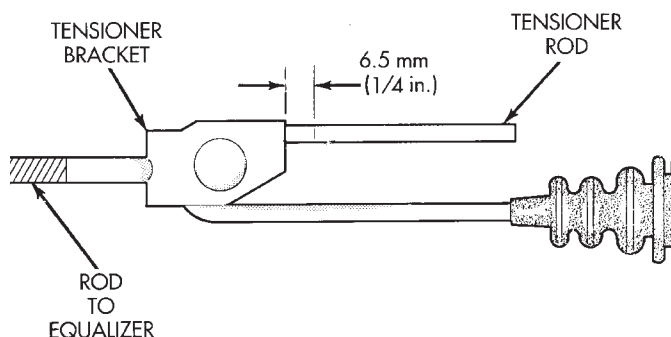

Fig. 83 Tensioner Rod Measurement
- (1) Raise vehicle.
- (2) Back off tensioner adjusting nut to create slack in cables.
- (3) Remove rear wheel/tire assemblies and remove brake drums.
- (4) Check rear brakeshoe adjustment with standard brake gauge. **Excessive shoe-to-drum clearance, or worn brake components will result in faulty parking brake adjustment and operation.**
- (5) Verify that parking brake cables operate freely and are not binding, or seized. Replace faulty cables, before proceeding.
- (6) Reinstall brake drums and wheel/tire assemblies after brakeshoe adjustment is complete.
(7) Lower vehicle enough for access to parking brake lever. Then **fully** apply parking brakes. Leave brakes applied until adjustment is complete.
(8) Raise vehicle and mark tensioner rod 6.5 mm (1/4 in.) from tensioner bracket (Fig. 83).
(9) Tighten adjusting nut at equalizer until mark on tensioner rod moves into alignment with tensioner bracket.
(10) Lower vehicle until rear wheels are 15-20 cm (6-8 in.) off shop floor.
(11) Release parking brake lever and verify that rear wheels rotate freely without drag.
(12) Lower vehicle.